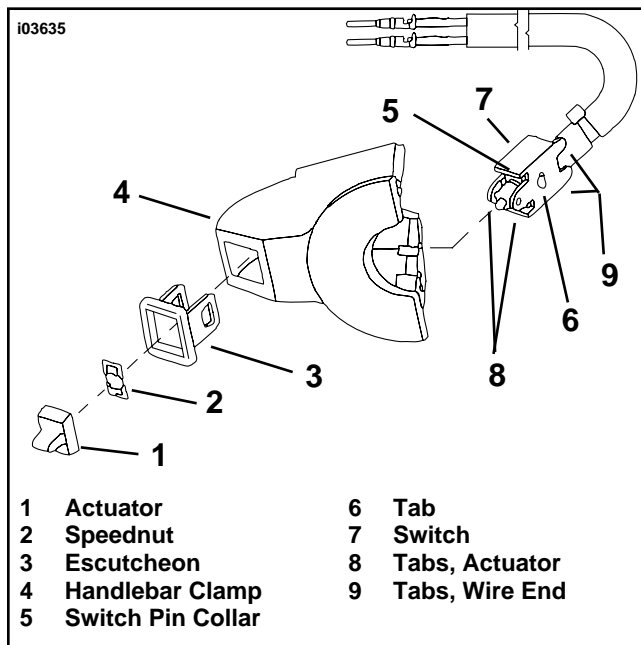

Figure 14. Switch Assembly Components
46. See Figure 14 and Service Parts Page Illustration. Obtain one of the Switch Assembly Packages and one of the handlebar clamps (3) from kit.
48. See Figure 14. Insert the escutcheon into the handlebar clamp lining it up with the switch. Push inward, while holding switch in place, until tabs snap cleanly to switch securing switch in place.
50. See Figure 14 Position actuator so it will read correctly when installed. Align the two small pins on the actuator with the two small holes in actuator tabs and gently press until the actuator snaps into place.